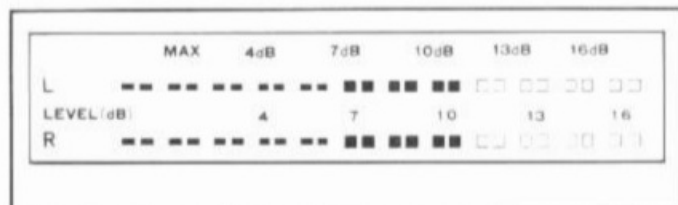

Fig. 3
2. Depress the processor switch (ON).
3. Rotate the input level control and set it so that the indication on the dynamic expansion meter is brought to its widest. For instance, when the dynamic expansion selector is set to the '10' position, adjust so that the display indicates up to 10 when a high input signal is fed in (See Fig. 3).
The RG-2 serves to expand the dynamic range of the music source. Whenever there is a difference between the levels of the left and right channel input signals, this difference is expanded. Say, for instance, the difference between the left and right levels is 2dB. This is expanded to 4dB or 6dB. This in turn translates into a change in the ambience of the sound as heard by the listener. With a music source arranged like that in Fig. 3, an interesting effect is obtained whereby the position of the vocalist at the center moves to the left and right along with the fluctuations in the difference between the left channel (bass) and right channel (piano).